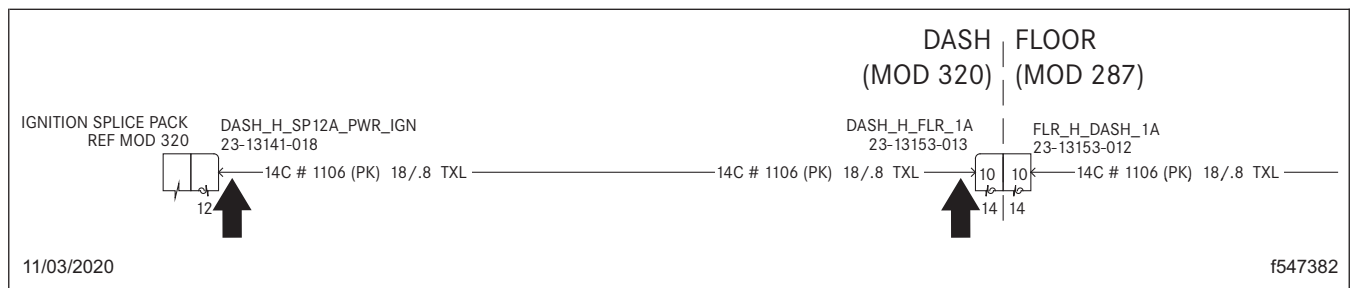

Fig. 5, Remove Circuit 14C from SP12A and the DASH_H_FLR_1A Connector
- Remove circuit 14C from SP12A and then remove the DASH_H_FLR_1A connector from cavity 10. See Fig. 5.